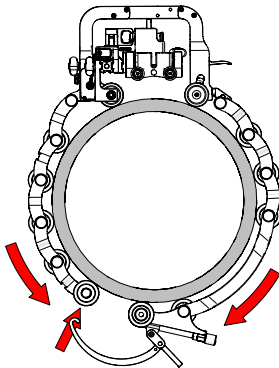
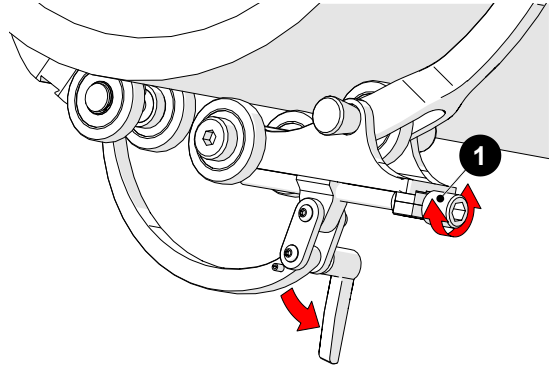

Fig. 86 - Hook buckle to catch link
Fig. 87 - Adjust pressure of buckle
6. Bring the buckle arm towards the catch link. Hook the buckle's arm to the middle axle of the catch link (Fig. 86). The buckle adjustment knob (Fig. 87-1) may have to be loosened to allow the arm to reach the catch link (Fig. 87).